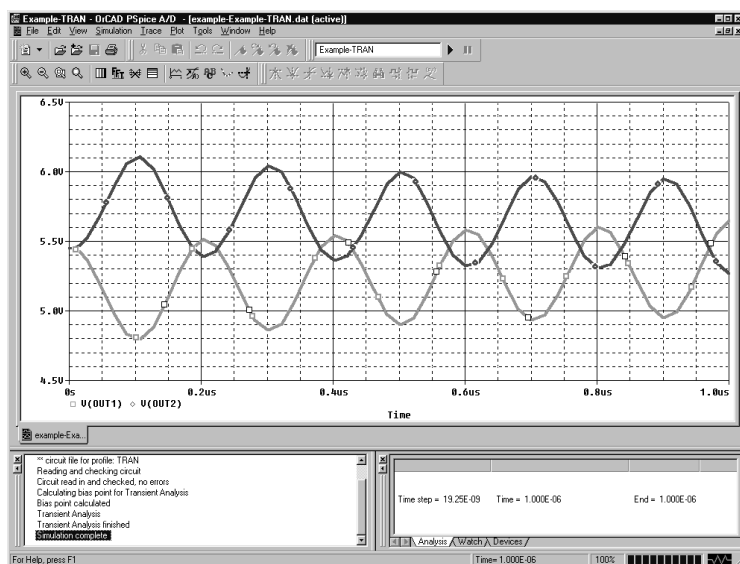

Figure 56 PSpice simulation window
The PSpice Simulation Window consists of three sections: the main window section where the open files are displayed, the output window section where output information such as informational, warning, and error messages from the simulator are shown, and the simulation status window section where detailed status information about the simulation are shown. These three sections are shown in Figure 56.
**Title bar** The title bar of the simulation window (the area at the top of the window) identifies the name of the currently open simulation (either simulation profile or circuit file) and the name of the currently active document displayed in the main window area. For example, the simulation window shown in Figure 56 indicates that simulation profile Example-TRAN is currently open and the active document displayed is Example-Example-TRAN.DAT.
**Main window section** The top central portion (by default) of the simulation window is the main window section where documents (such as waveforms, circuit description, output information etc.) are displayed within child windows. These windows are tabbed by default. The tabs at the bottom left show the names of the documents that each child window contains. Clicking on a tab brings that child window to the foreground. Figure 56 shows the tabbed document windows for Example-Example-TRAN.DAT and Example-Example-TRAN.OUT.